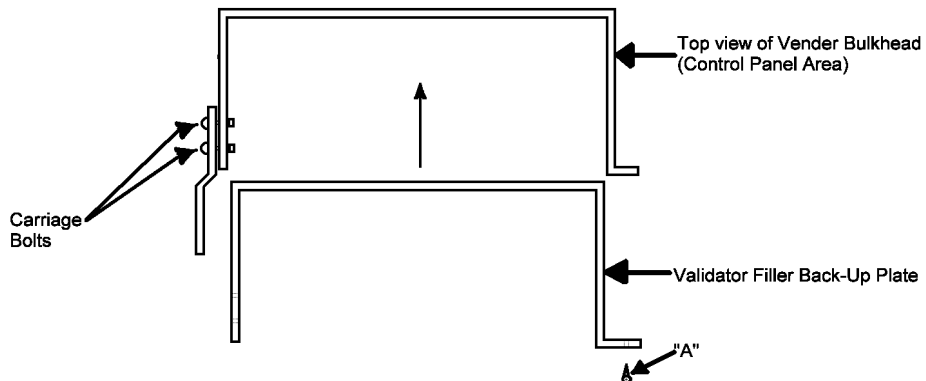

FIGURE 1
2. Remove the keps nuts on the two vandal panel carriage bolts that are to the left of the Validator Filler Plate. (See figure 1 below.)
5. Install sems screw through flange of bracket and bulkhead on right. (See "A", figure 1 below.)